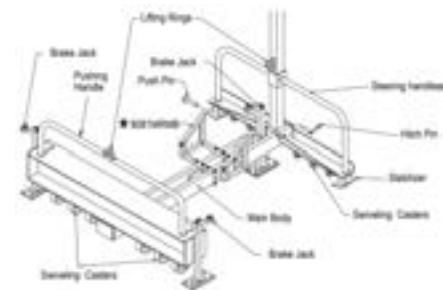

Figure 2
- b. Lift by using both of the lifting rings provided. (Fig. 2) DO NOT use lifting rings for fall protection